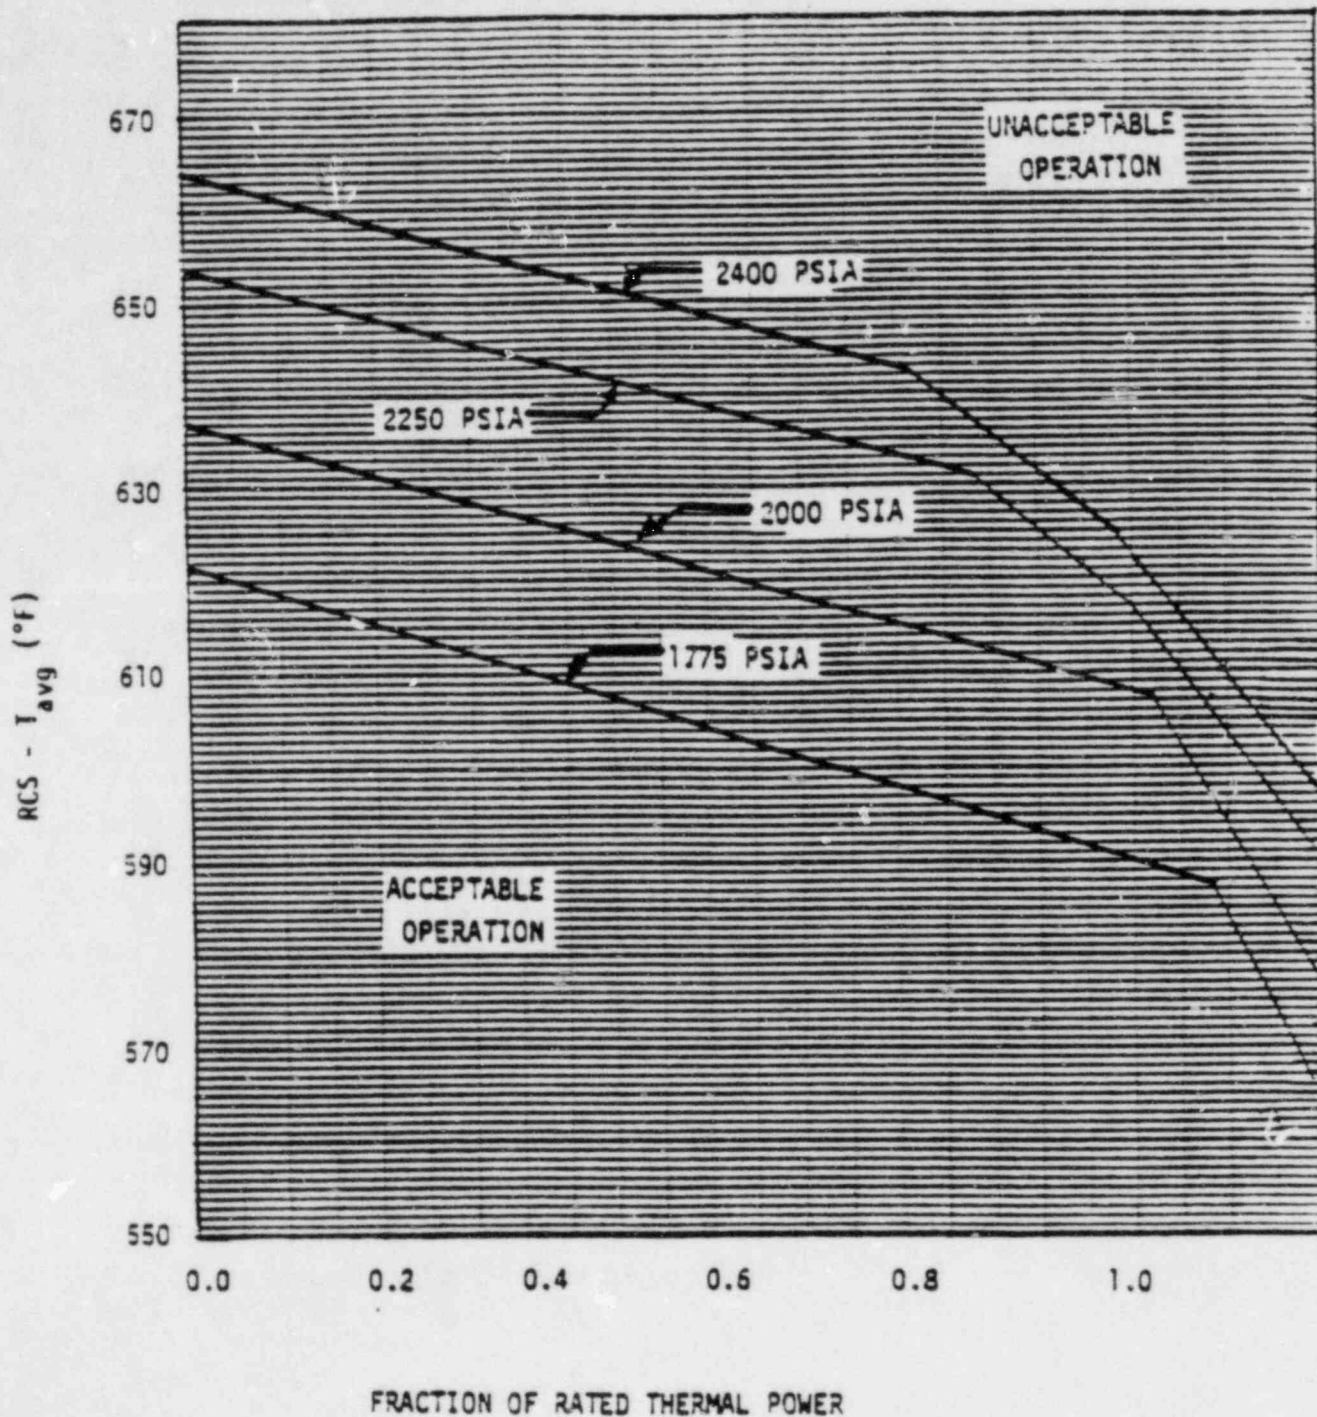

FIGURE 5-1
- b. Refer to figure 5-1 attached.